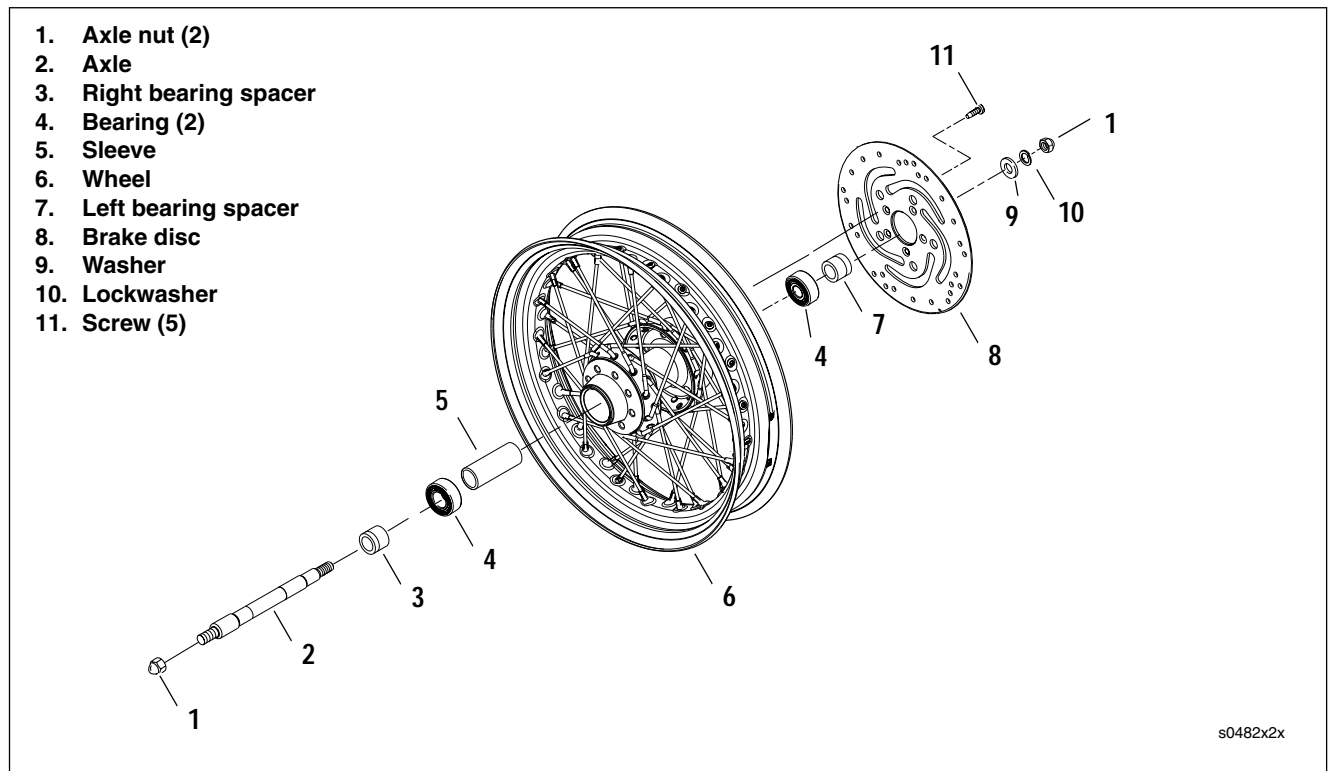

Figure 2-9. Front Wheel FXSTD
1. See Figure 2-9. Remove spacers (3, 7) from left and right sides.
2. If necessary, remove brake disc (8). Label components so they may be installed in their original locations. On left side of wheel, remove five screws (11) to detach left brake disc.
2. See Figure 2-9. If necessary, install brake disc (8) in its original position. Verify that brake disc is clean. On left side of wheel, install five **new** screws (11) to attach left brake disc. Tighten fasteners to 16-24 ft-lbs (21.7-32.5 Nm).